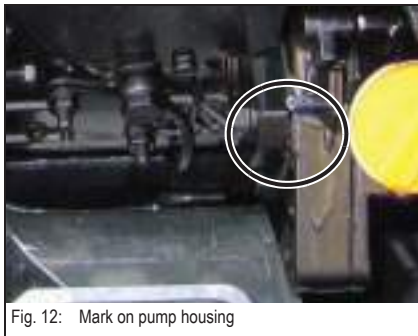

Fig. 12: Mark on pump housing
- ☞ Mark the original position of the injection pump on the pump and gear casing – see Fig. 12
- ☞ Set the injection pump to the original position by means of the marks on the gear casing and injection pump housing made during removal – see Fig. 12